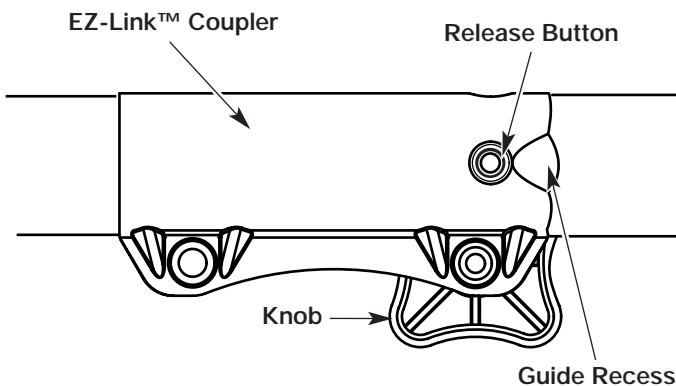

Fig. 9
1. Turn the knob counterclockwise to loosen (Fig. 9).
2. Press and hold the release button (Fig. 9).
1. Turn knob counterclockwise to loosen (Fig. 9).
**NOTE:** Aligning the release button with the guide recess will help installation (Fig. 9).
3. Turn the knob clockwise to tighten (Fig. 9).